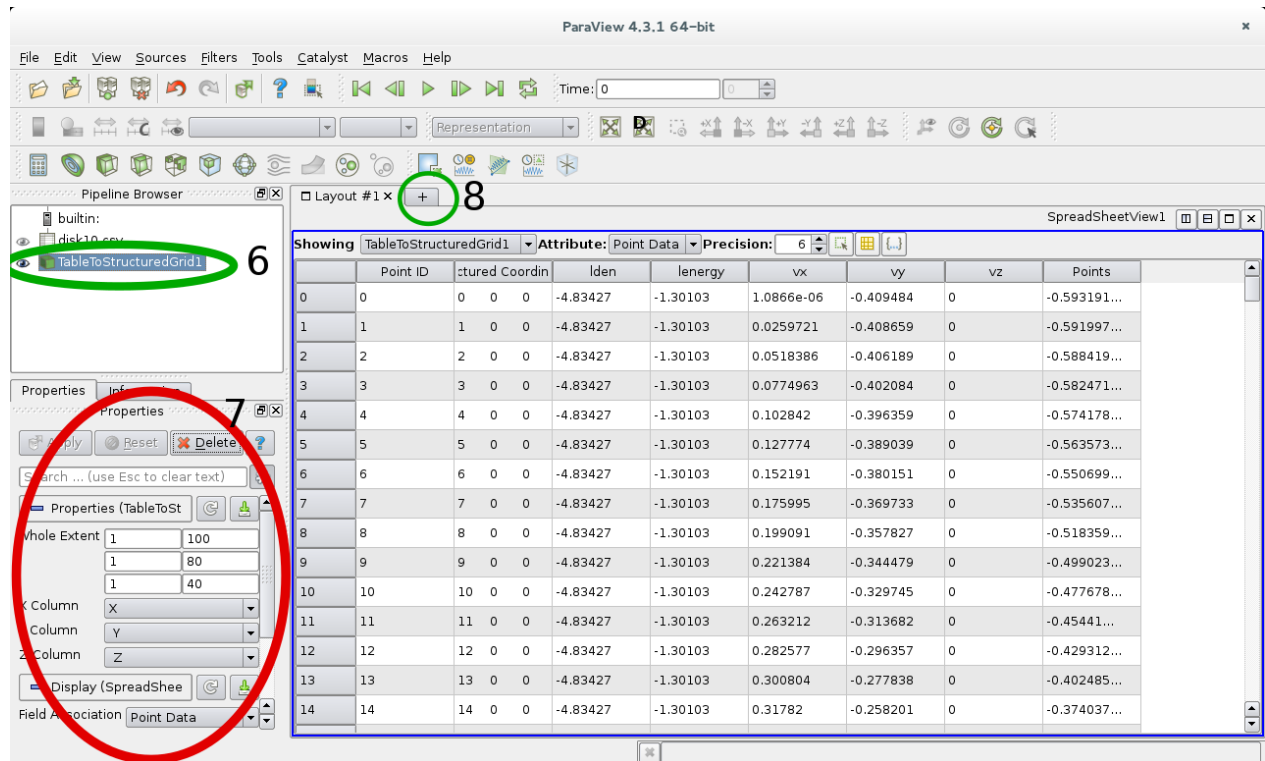

Figure A.3: 3D visualization with Paraview. Steps 6-8.
6. Now it appears a new attribute in the pipeline browser called TableToStructuredGrid1, select it (see Fig. A.3).
7. You need to fill correctly the Whole Extent section and the X, Y, Z columns. The Whole extent must coincide with the original grid dimension. Remember the simulation is 100, 80, 40 cells in X, Y, Z. Then we fill the Whole Extent section with these values (see figure A.3). The X, Y, Z columns must coincide with the csv columns labeled as X, Y, Z (see figure A.3). When this is done, click on the apply button, now the data is displayed as seen in figure A.3.